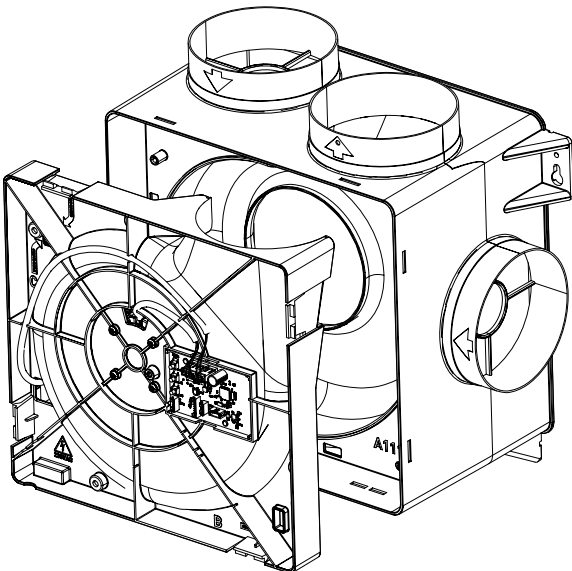

Figure 13: removing the motor plate
3. Secure the CO2 Box sensor from the outside in the desired duct port by clicking it into place on the rib closest to the motor plate (Figure 13: Clicking the CO2 Box sensor into the duct port). To do this, make a tilting movement by first tightening the lower and then the upper clamp.